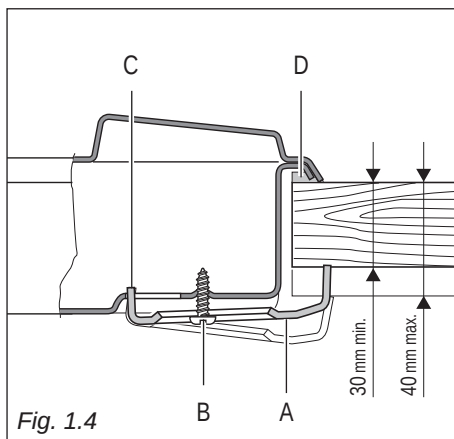

Fig. 1.4
- Put tabs "A" into place, tooth "C" of the tabs should go into the hole (fig. 1.4).